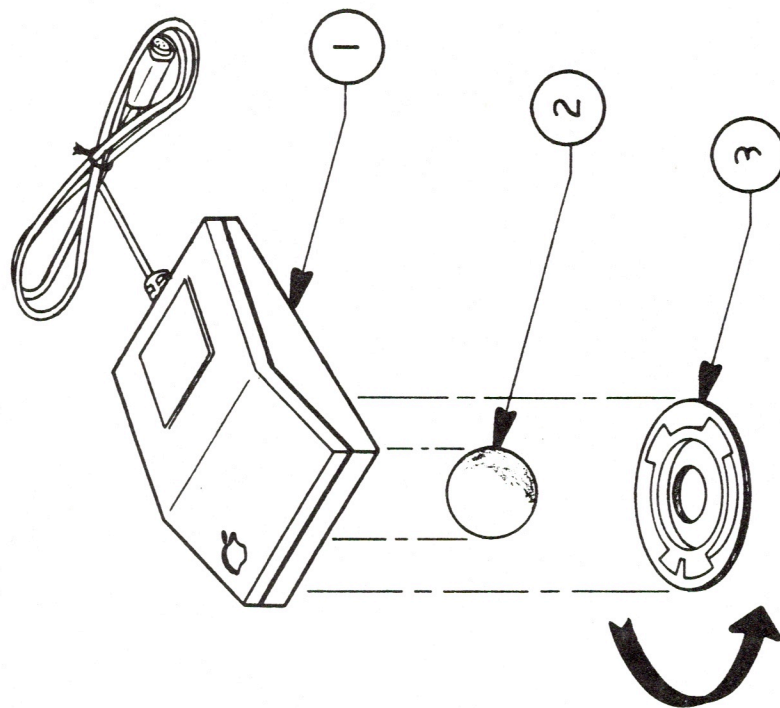

FIGURE 11
□ MACINTOSH SE – MOUSE (Figure 11)